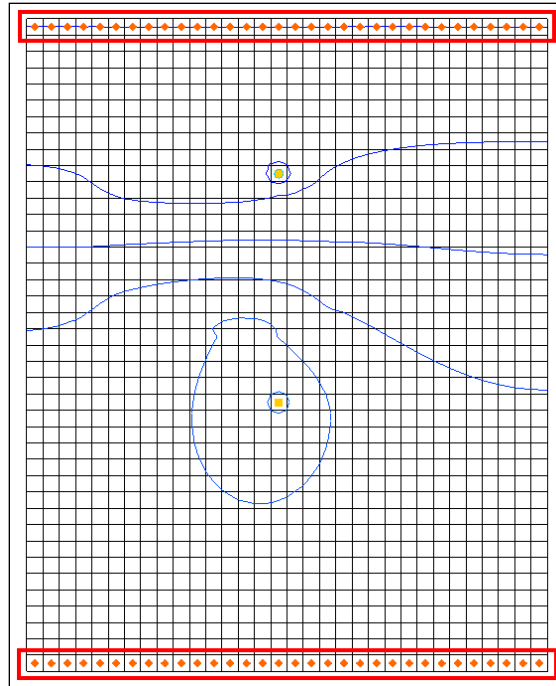

Figure 3 Selecting cells on the model boundary
- Using the **Select Cells**  tool, select all cells with the constant head BCs (orange diamond symbols) along the top and bottom boundaries of the grid. Do this by dragging a box around the cells at the top of the model and then holding down the *Shift* key and dragging a second box around the cells at the bottom of the model (see red boxes in Figure 3).